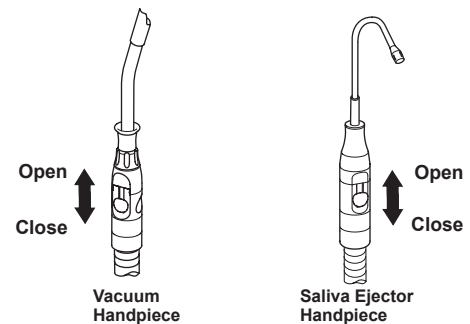

Fig.3-24 Vacuum Handpiece and Saliva Ejector Handpiece
(4) Assistant Instrument Holder (Fig.3-24)